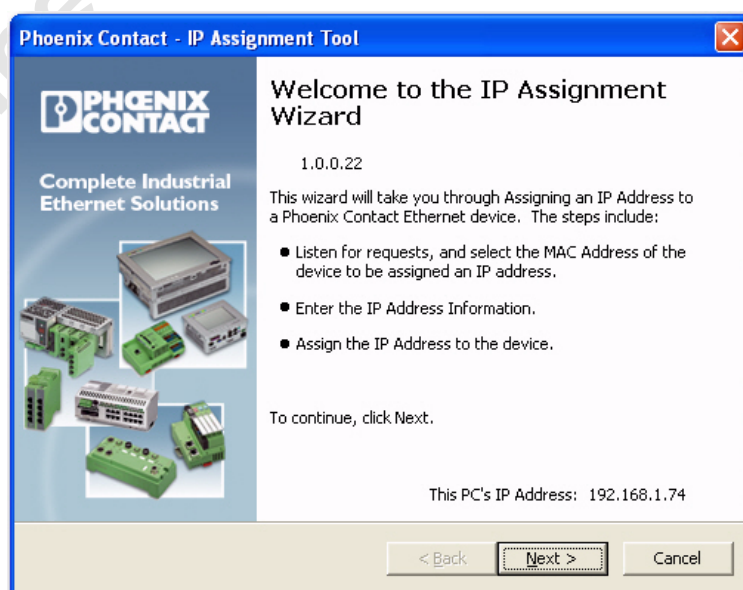

Figure 2-26 The Phoenix Contact IP Assignment Tool wizard.
2. From "Start", select the "Start... Programs... Steeplechase VLC 7.2... System... BootP IP Assignment Tool" menu to launch the IP Assignment Tool wizard (see Figure 2-26).